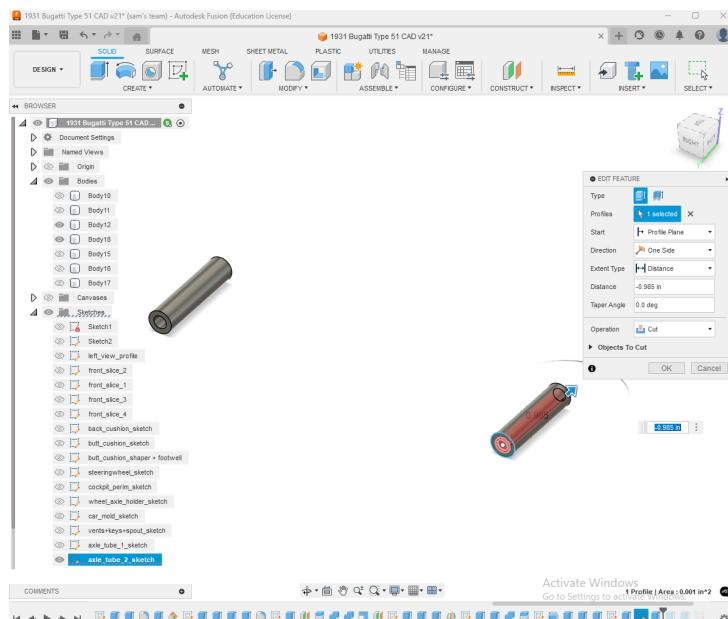

Fig. 36: Decreasing the axle tube inner diameter by approx. 0.05 inches
9. Make the axle tube's inner diameter larger by approximately 0.05" to allow them to slide onto the internal mold pins and to fit the diameter of the axle with minimal friction, as shown in **Fig. 36**. This is done because the axle tube was used to create the mold pins, which would create a friction fit in practice - to ensure that the fit is not too tight, a small amount of material should be removed. For the same reason, remove ~ 0.02 inches from the outer diameter to create tolerance for the axle tubes to fit into the mold indents.